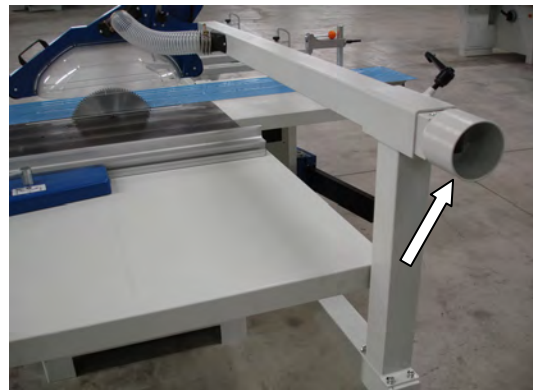

Figure 3-12.2
2. Exhaust pipe (Fig. 3-12.2) diameter 102mm